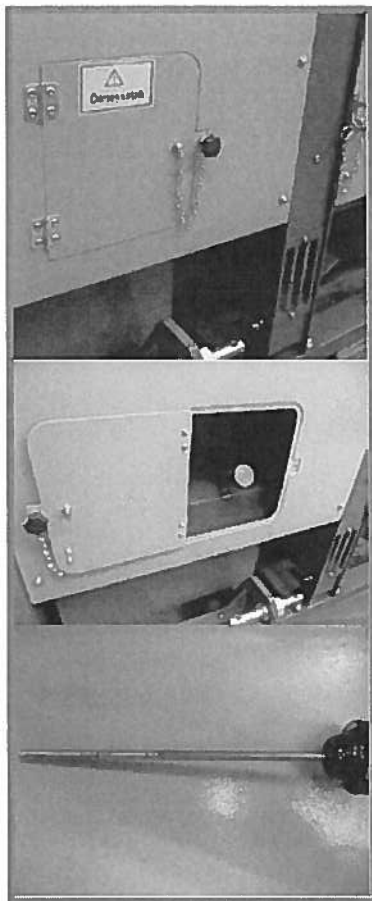

Fig.19
- Check the hydraulic oil level (check the hydraulic system in case of oil leakage). Open the cap and pull the dipstick out to check the level (Fig. 19).